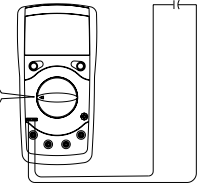

figure 8
H. Capacitance Measurement (see figure 8)